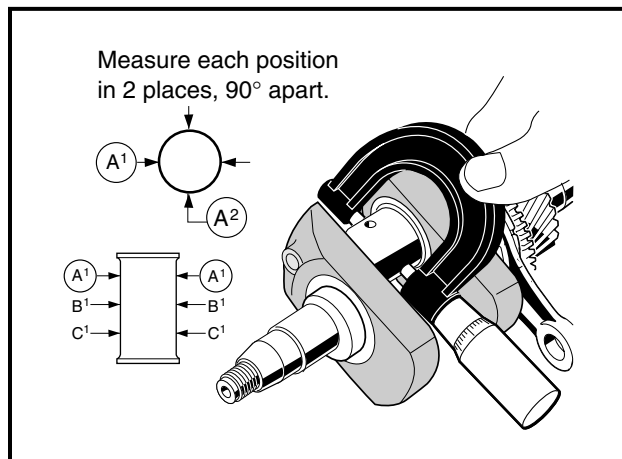

Figure 3-77 Measure Connecting Rod Journal
4. Use a micrometer to measure the connecting rod journal at several points along its length (Figure 3-77, Page 3-36).